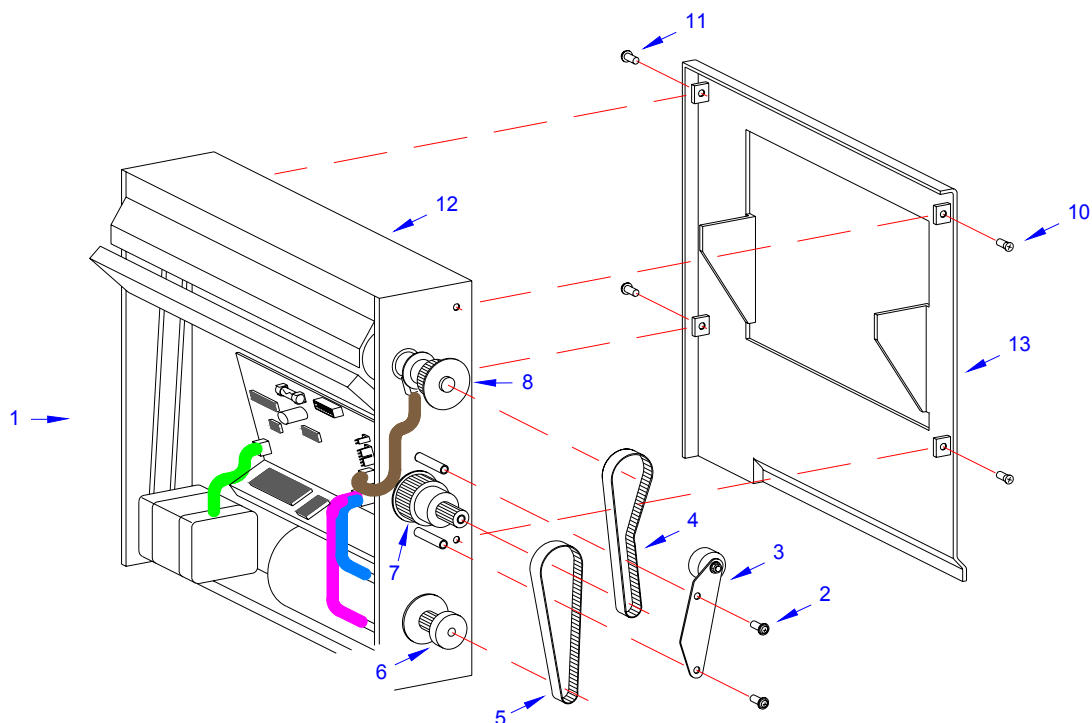

Figure 7-23a, Cutter Belt Replacement
- 2 Remove cutter assembly (1, Figure 7-23a) from the printer.